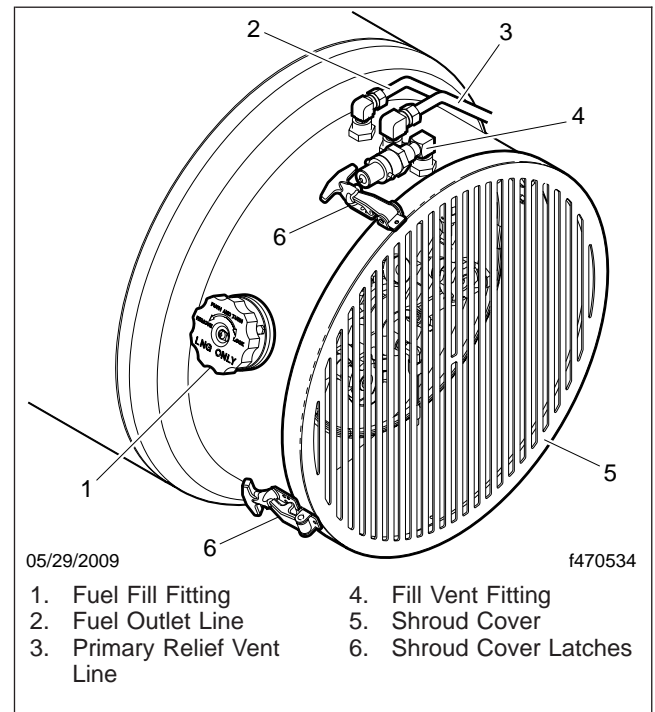

Fig. 16.2, LNG Fuel Tank
2. Remove the fuel fill fitting dust cap. See Fig. 16.2.